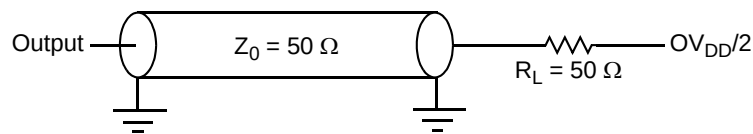

Figure 29. AC Test Load for the JTAG Interface
1. All outputs are measured from the midpoint voltage of the falling/rising edge of t_{TCLK} to the midpoint of the signal in question. The output timings are measured at the pins. All output timings assume a purely resistive 50-Ω load (see Figure 29). Time-of-flight delays must be added for trace lengths, vias, and connectors in the system.
2. The symbols used for timing specifications follow the pattern of $t_{(first\ two\ letters\ of\ functional\ block)(signal)(state)(reference)(state)}$ for inputs and $t_{(first\ two\ letters\ of\ functional\ block)(reference)(state)(signal)(state)}$ for outputs. For example, $t_{JTDVVKH}$ symbolizes JTAG device timing (JT) with respect to the time data input signals (D) reaching the valid state (V) relative to the t_{JTG} clock reference (K) going to the high (H) state or setup time. Also, t_{JTDXKH} symbolizes JTAG timing (JT) with respect to the time data input signals (D) went invalid (X) relative to the t_{JTG} clock reference (K) going to the high (H) state. Note that, in general, the clock reference symbol representation is based on three letters representing the clock of a particular functional. For rise and fall times, the latter convention is used with the appropriate letter: R (rise) or F (fall).
Figure 29 provides the AC test load for TDO and the boundary-scan outputs.